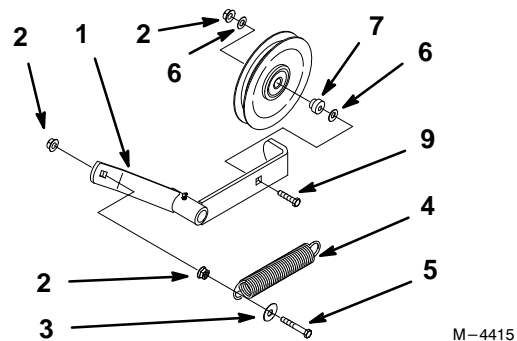

Figure 2
- Remove the pulley, bushing, and hardware from idler arm. (Old idler arm not shown) (Fig. 2).
- Route new belt onto the idler pulley. Install pulley and belt to new idler arm using existing hardware (Fig. 2).
- Install spring to new idler arm. Use existing hardware and new flat washer included in kit. (Fig. 2).